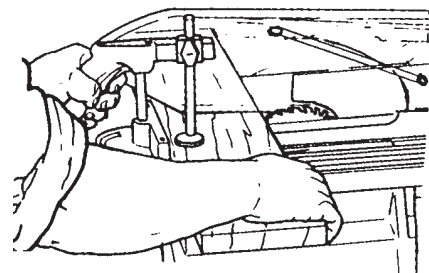

Figure C-1
4. Squeeze the safety grip and turn on the MARK 520S. Set to the correct speed, then guide the stock past the blade. Use your free hand to help keep the stock against the miter gauge face. See Figure C-1.